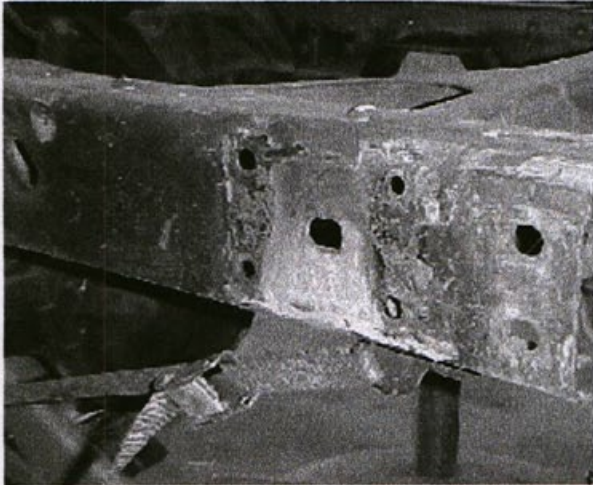

Figure 1
2. Remove and discard the rear factory leaf spring brackets. **Figure 1.**